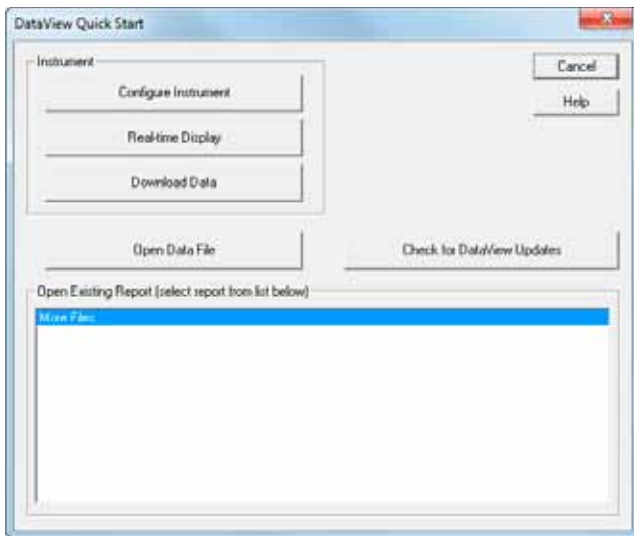

Figure 7-4
- DataView® will open and display the **DataView Quick Start** window (see Figure 7-4).